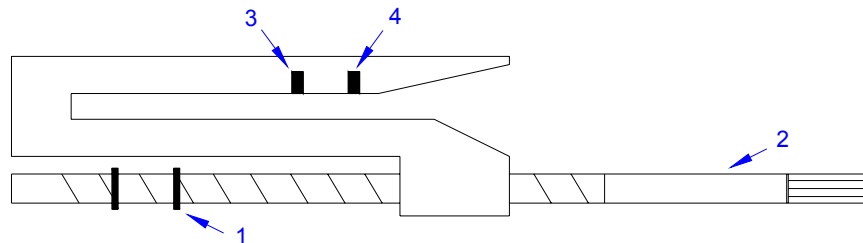

Figure 8-7, Pitch Sensor Assembly
- 3 Remove e-clip (1, Figure 8-7) from brass sensor adjustment shaft (2) as necessary.